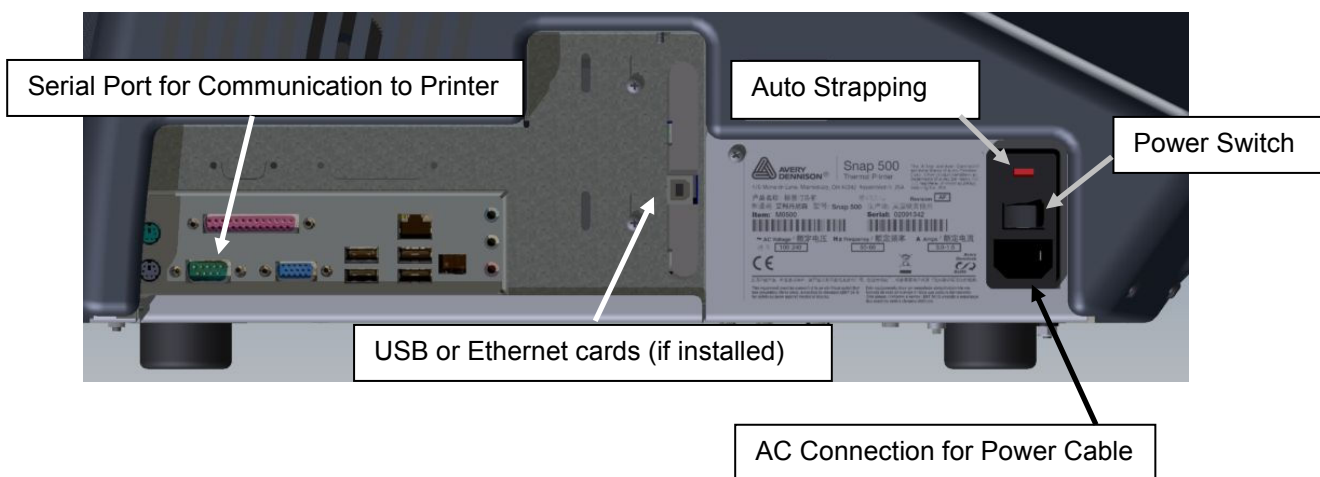

Figure 6: Rear View of the Printer
1. Locate the communication cable connectors on the backside of the printer (see Figure 6).